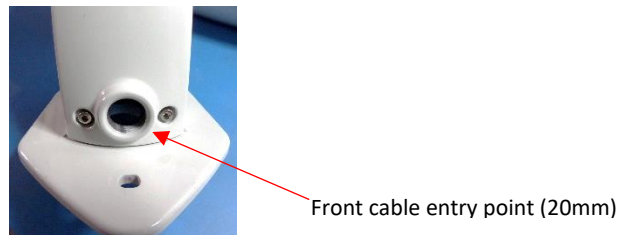

Fig 2
- Two cable entry points are provided (fig 2); at the rear of the baseplate (25mm  $\varnothing$  hole), for cables passed through the wall, and at the front; located at the bottom of the wall arm cover (20mm threaded for conduit). A screw cap is supplied for this access point, in the event it is not used.